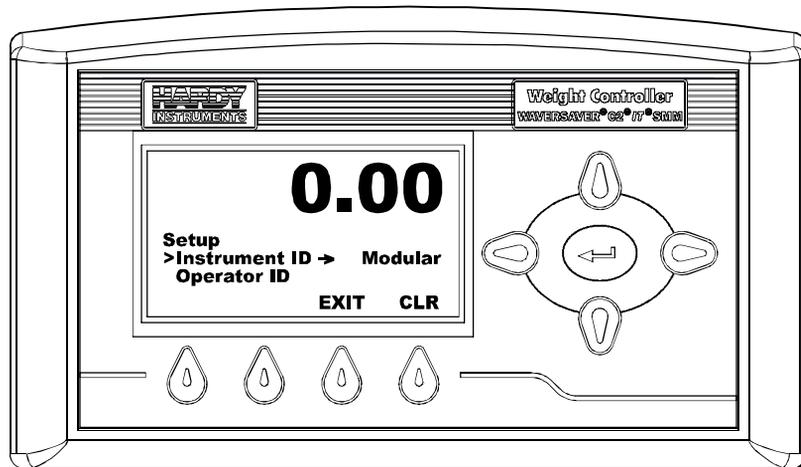

FIG. 86 SETUP MENU/SELECTING INSTRUMENT ID
Step 1. Press the Down Arrow button until the cursor is in front of Instrument ID. (See Fig. 86) The current Instrument ID is displayed.